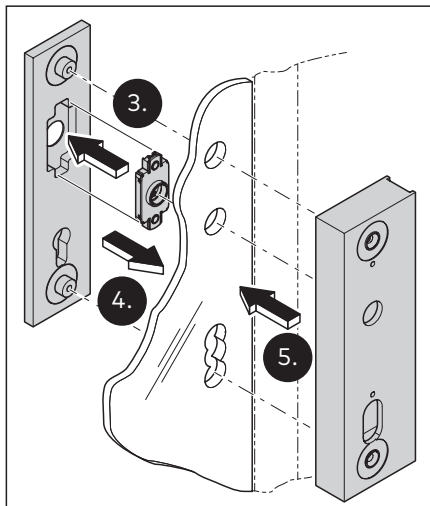

Fig. 14 Attach the lock mortise and the screw-on plate
3. Put the door handle rose into the screw-on plate (Fig. 14).